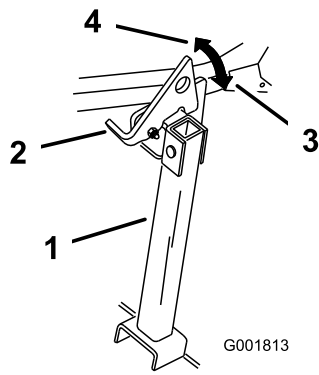

Figure 29
2. Raise the latch to the UNLOCKED position (Figure 29).